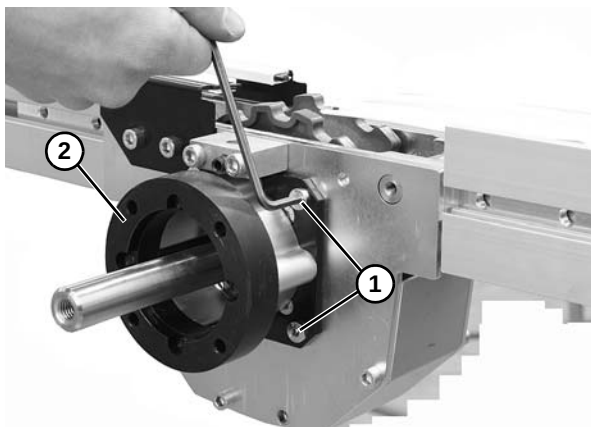

Figure 88
7. Remove four hex head cap screws (**Figure 88, item 1**) and remove drive motor mounting plate (**Figure 88, item 2**).